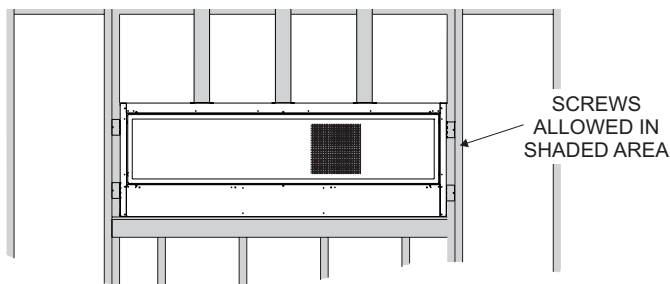

Figure 50
- Screws are allowed in framing and top mounting brackets. No screws are allowed into the fireplace face. **See Figure 50.**